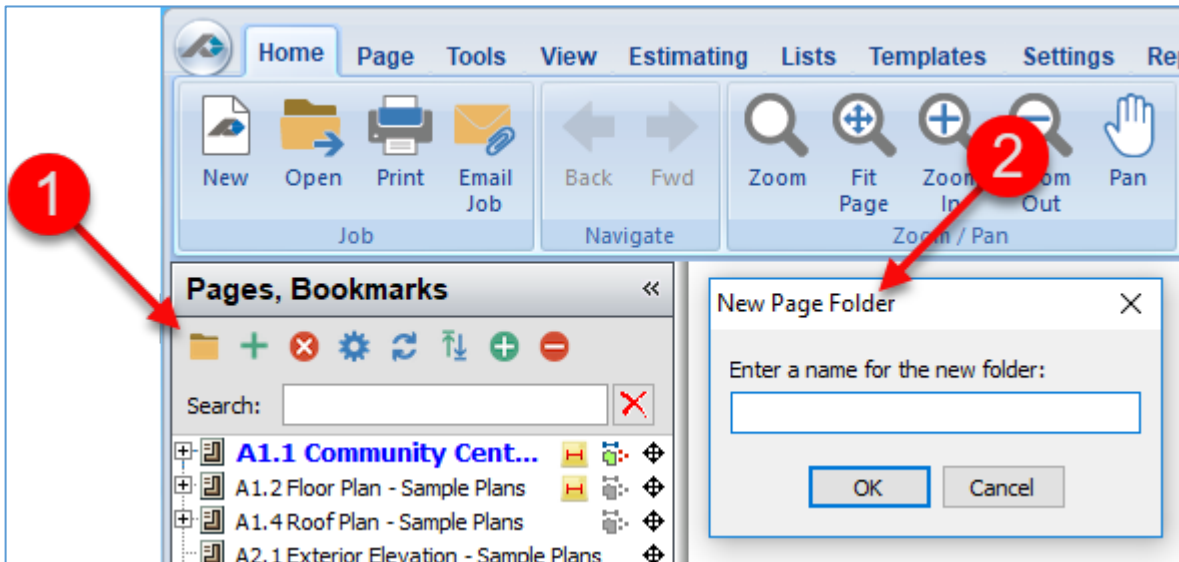

Figure 7-A
1. Click on the yellow folder button in the **Pages, Bookmarks** window (Fig. 7-A).